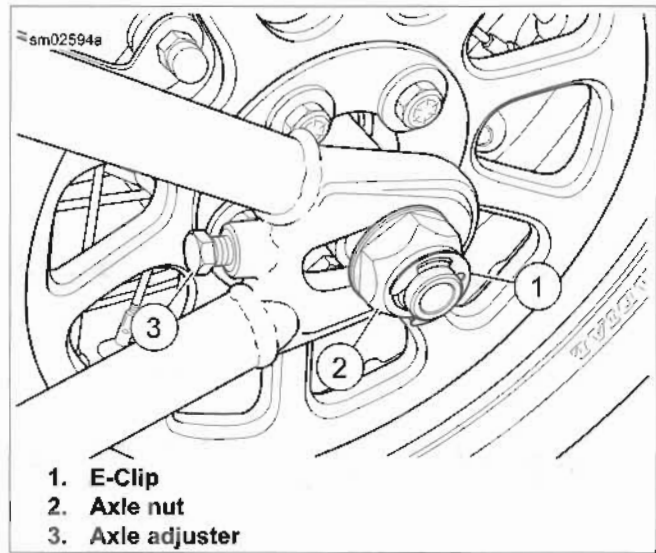

Figure 2-41. Axle Adjusters
1. **All but FXSB:** See Figure 2-41. Remove e-clip (1). Loosen rear axle nut (2).
6. **All but FXSB:** See Figure 2-41. Install e-clip.